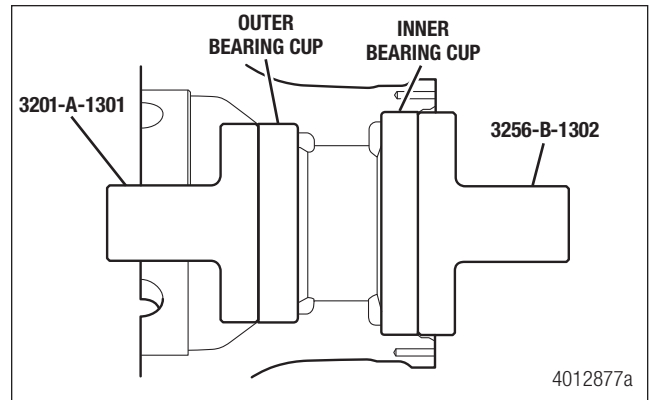

Figure 13.5
1. Use a press and appropriate driver to install the inner and outer bearing cups into the hub. Use driver part number 3256-A-1301 for the outer bearing cup and driver part number 3256-B-1302 for the inner bearing cup. See Hub Outer Bearing Cup Driver (3256-A-1301) on page 69 and Hub Inner Bearing Cup Driver (3256-B-1302) on page 69 for tool information. Figure 13.5.